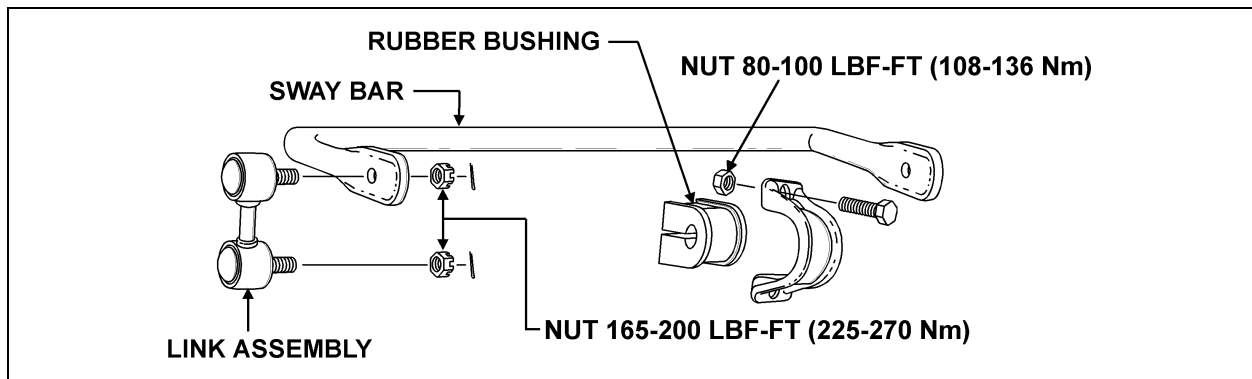

FIGURE 10: I-BEAM FRONT AXLE SWAY BAR
A sway bar is provided on the front axle to increase vehicle stability. It controls lateral motion (swaying movement) of the vehicle (Fig. 10).
2. Tighten the eight bushing collar nuts to 80-100 lbf-ft dry (108-136 Nm) (Fig. 10).
3. Install two sway bar link upper and lower nuts and tighten to 165-200 lbf-ft dry (225-270 Nm) (Fig. 10).